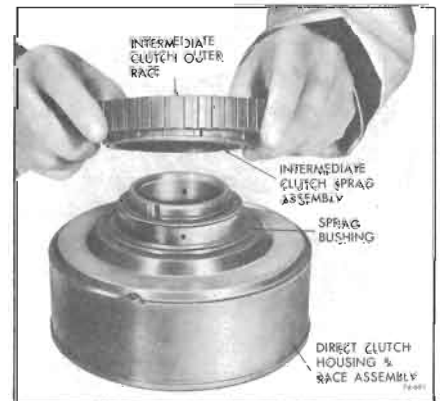

Figure 74-691
13. With ridge on inner cage facing down start sprag and outer race over inner race with clockwise turning motion. See Figure 74-691.